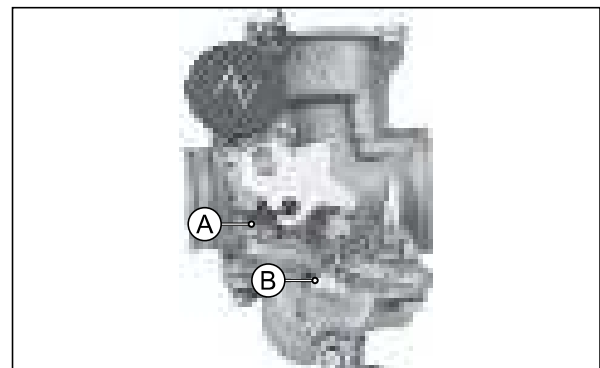

Fig. 4.21
- Remove the adjuster pilot screw (mixture control screw) (A) along with spring, washer, and 'O' ring. (Fig. 4.21)
- Loosen and remove idle adjuster screw (B) along with spring and washer. (Fig. 4.21)